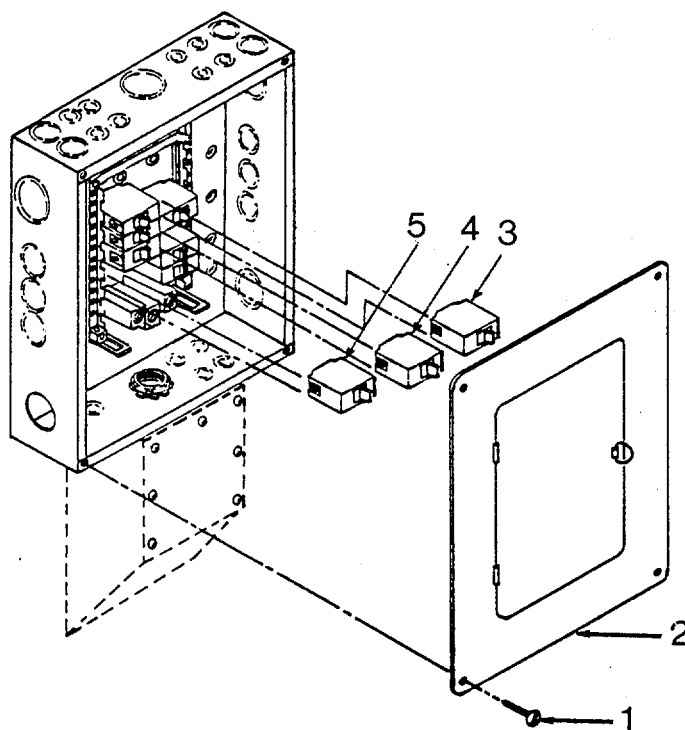

Figure 5-4. Main Power Service Assembly
(2) Remove door and cover assembly (2) from main power service assembly by removing attaching screws (1). (See Figure 5-4.)
- (16) Position door and cover assembly (2, Figure 5-4) on service box and secure with attaching screws (1).
a. Inspect. (See Figure 5-4.)
(1) Inspect main power service box assembly of curbside of rear wall for dents, corrosion, and security of mounting.
(2) Inspect door and hinge on main power service box assembly for ease of movement, complete closure, proper latching, and legible circuit decals.
(3) Inspect circuit breaker aperture blanks for presence and security of mounting.
(4) Inspect circuit breakers for proper operation and security of mounting.
b. Repair. (See Figure 5-4.)**WARNING**
b. Repair. - Continued (See Figure 5-4.)